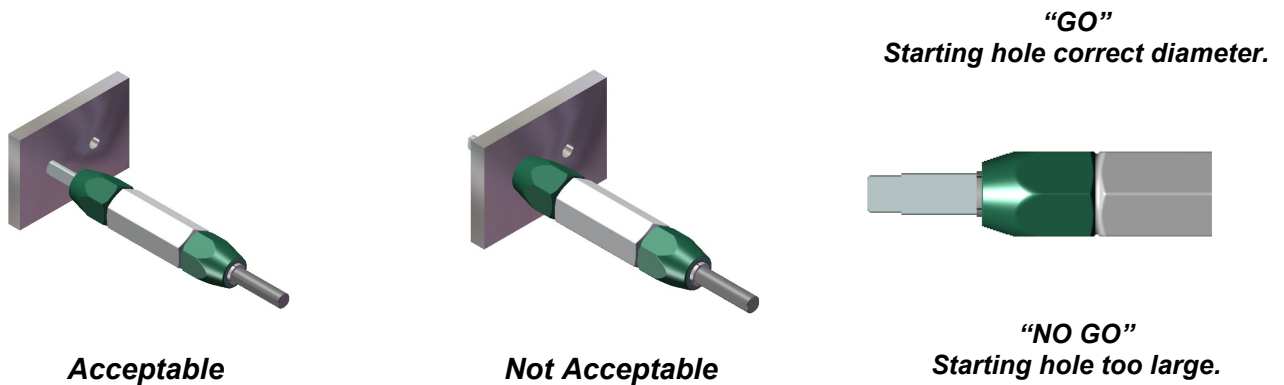

Figure 4-6
10. Verify the starting hole diameter (SHD) using the stepped go/no-go end of a combination gage (Figure 4-6).